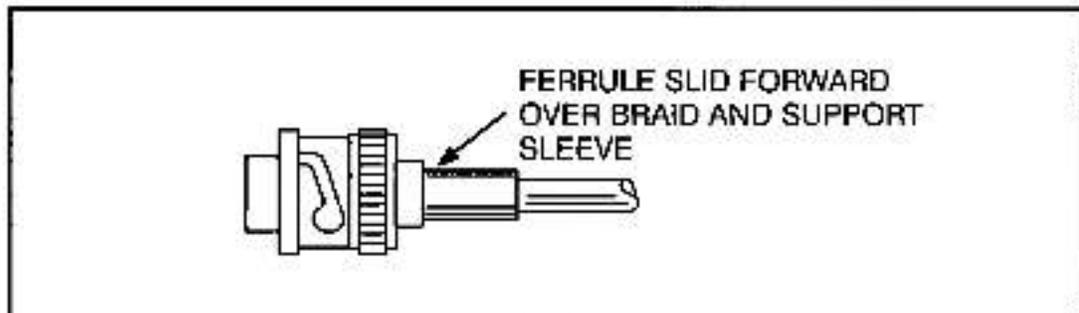

Figure 3.24 - Connector Installation Step 11 for RG-11/U Cable
- Step 11. Slide the ferrule forward over the shield braid wire and the support sleeve until the ferrule butts against the shoulder on the connector body, as shown in figure 3.24.